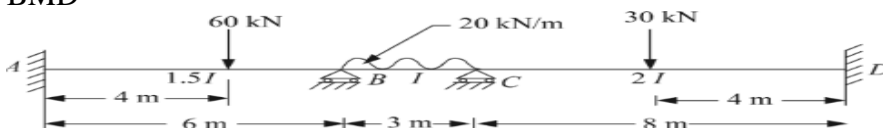

Fig. Q5
5. Analyse the continuous beam shown in Fig. Q5 by Kani's method. Draw BMD 20 (3 :3: 2.2.1)